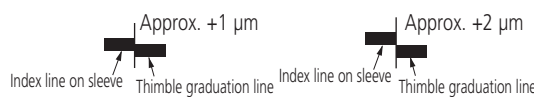

Fig. 3
2. The width of the graduation lines represent approximately 2 μm to aid in reading to the nearest 1 μm. (Fig. 3)